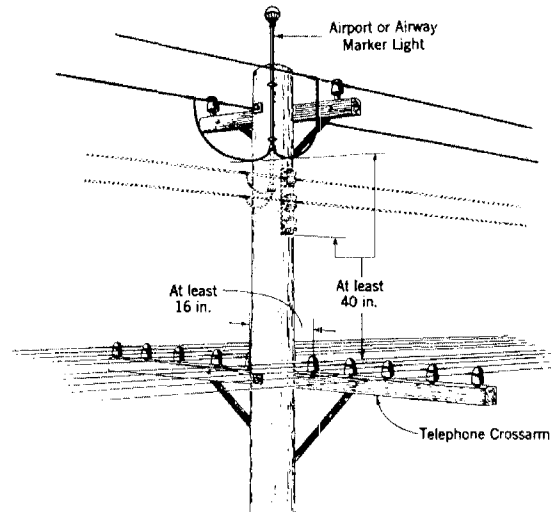

Fig. 23
12.01 Clearances to be observed when airport marker lights are involved are shown in Fig. 23.